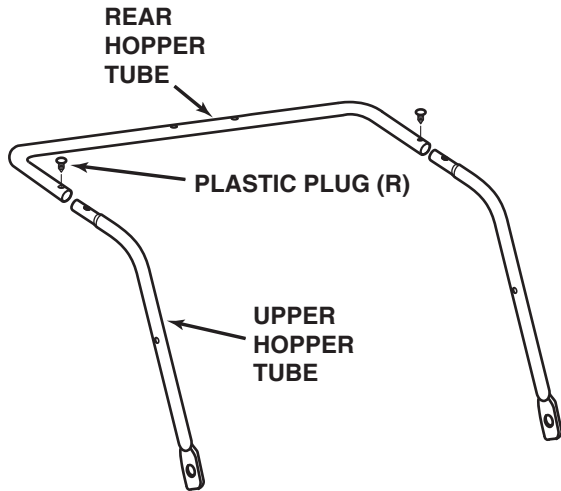

FIGURE 7
- Fit the ends of the two upper hopper tubes into the ends of a rear hopper tube. Align the holes in the ends of the tubes and insert plastic plugs (R). See figure 7.